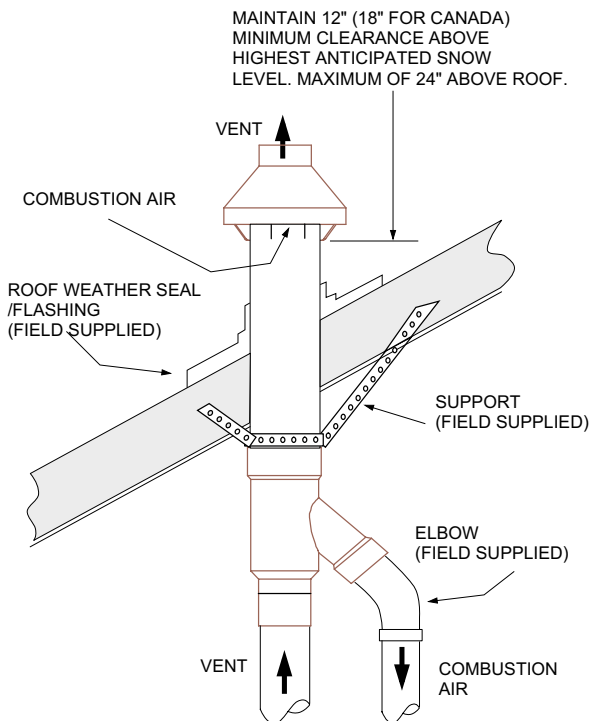

FIGURE 3 - TYPICAL ROOF INSTALLATION
7. Secure assembly to roof structure as shown in Figure 3 using field supplied metal strapping or equivalent support material.
NOTE: If assembly is too short to meet height requirement, the 2 pipes supplied in the kit may be replaced by using same diameter, field supplied SDR-26 PVC (D2241) pipe. Do not use Schedule 40 PVC or couplings to extend pipes. The additional wall thickness will restrict combustion air and may cause operational problems. Do not extend air inlet pipe more than 60" (refer to Figure 3).
9. Cement furnace combustion air and vent pipes to concentric vent termination assembly. Refer to Figure 3 for proper pipe attachment.